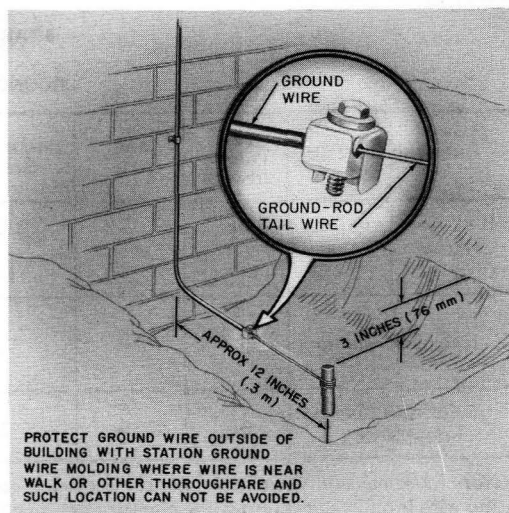

Fig. 77—Ground Rod Installed Near Wall♦
- (c) Approximately 12 inches from outside walls (Fig. 77)
9.06 ♦After the No. 10 or No. 12 station ground wire is installed, it is attached to the ground rod tail wire with a size 6 AT-7796X connector (Fig. 77). Tighten the ground rod tail and ground wire securely in the connector; **do not tape this connection**. If a 6-gauge ground wire must be terminated on the ground rod, select the proper ground clamp per Table E.♦